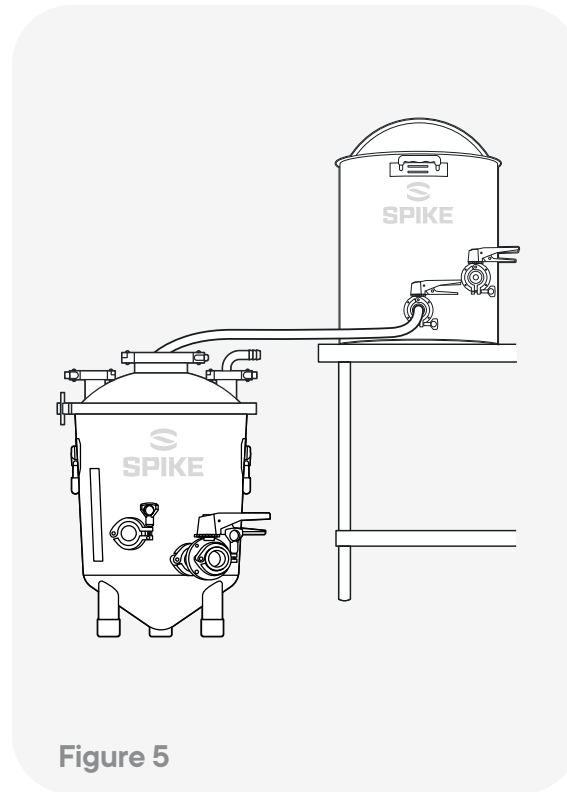

Figure 5
1. Attach tubing from your kettle outlet and into one of the ports on the FLEX lid. Be sure that the end of tube is above the final volume of wort in the FLEX. If not, the transfer will stop when the tube is submerged. (see **Figure 5**)